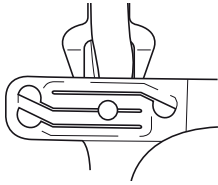

Fig. 1
- (1) Push top crown strap towards top of helmet.
- (2) Place helmet on head and push down until a comfortable wearing height is reached.
- (3) To ensure that headbands are compatible with head height and to get the preferred upward vision (change of vision angle), adjust the helmet wearing height if necessary by repositioning the headband clips within the suspensions as shown in Fig. 1.